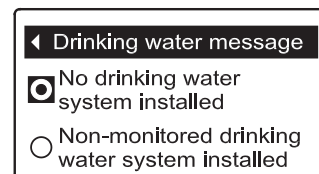

FIG. 112
4. Press the SELECT (O) button to display the Drinking water message menu (See Figure 112).